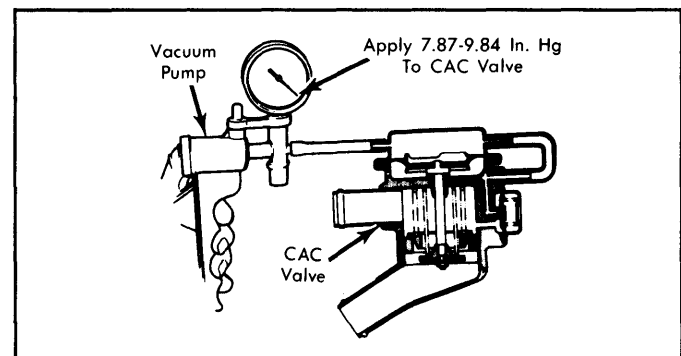

Fig. 4: Checking Combined Air Control Valve
- 3) Next, connect a hand-held vacuum pump to CAC valve. See Fig. 4. Apply 7.9-9.8 in. Hg to valve, then increase engine speed to 3000 RPM. Make sure no air leaks from CAC valve.